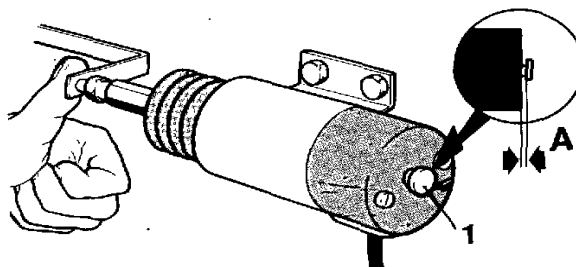

Fig. 224. Checking the contact gap, stop solenoid
2. Press the solenoid pull-rod in by hand and check that the stop position indicator (pin) 1, fig. 224 at the rear end of the solenoid is pushed out approx. 1.5–2.0 mm (0.06–0.08") when the pull-rod is completely pushed back.